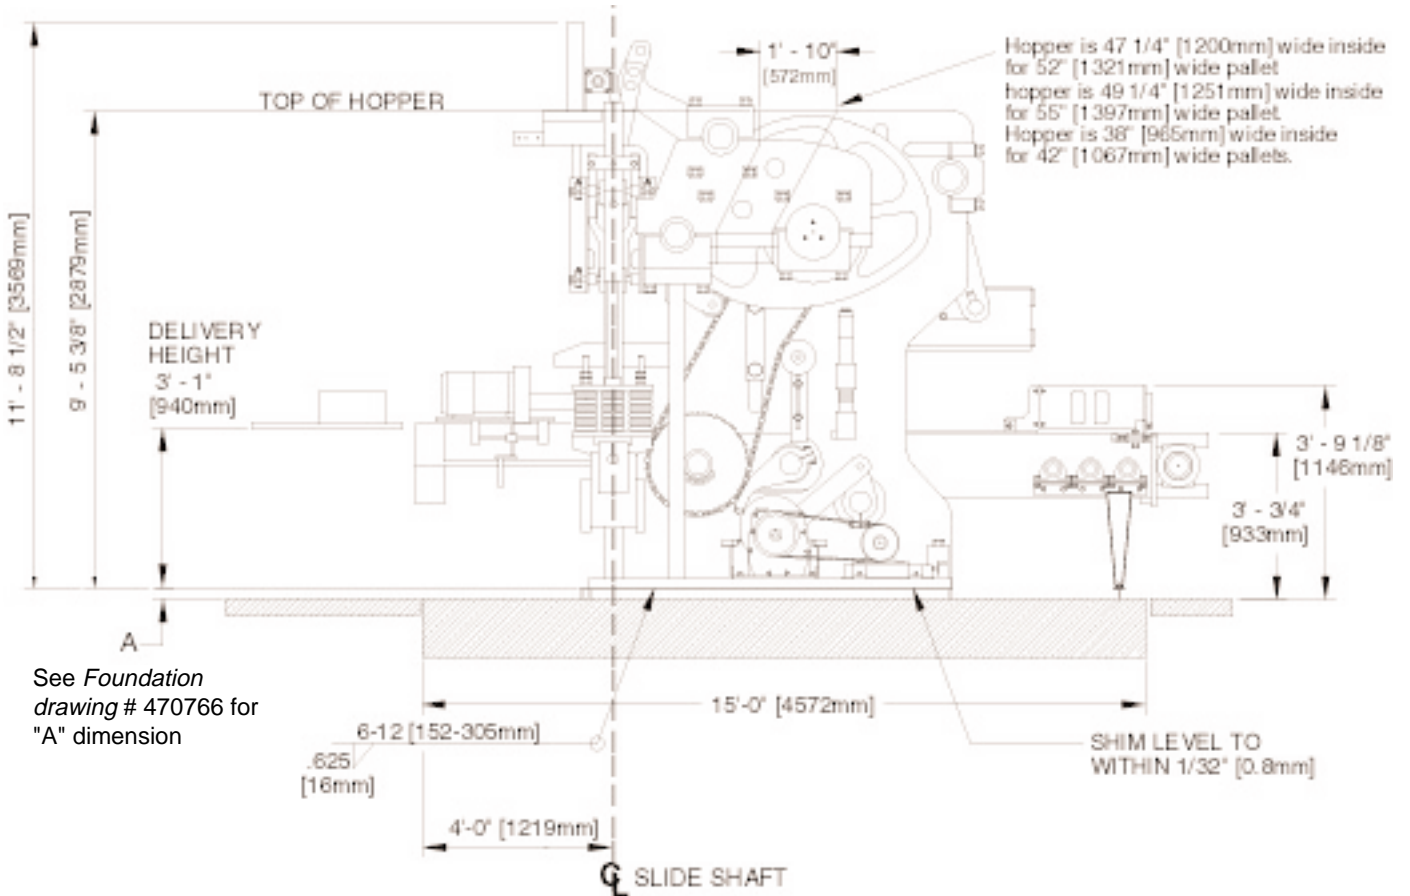

Figure 1.8 RIGHT SIDE ELEVATION.
level on both slide shafts (must be plumb both ways). Refer to figures 1.8 and 1.9.
6. Weld machine to steel with 5/8" [16mm] skip weld. Make sure machine stays aligned with center line during welding. Weld over the shims. Refer to figure 1.8 and 1.9.